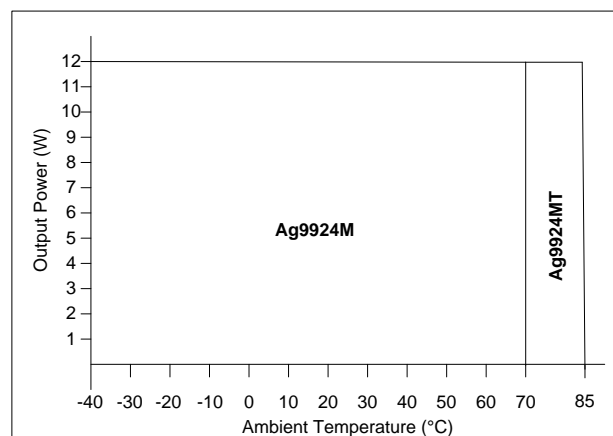
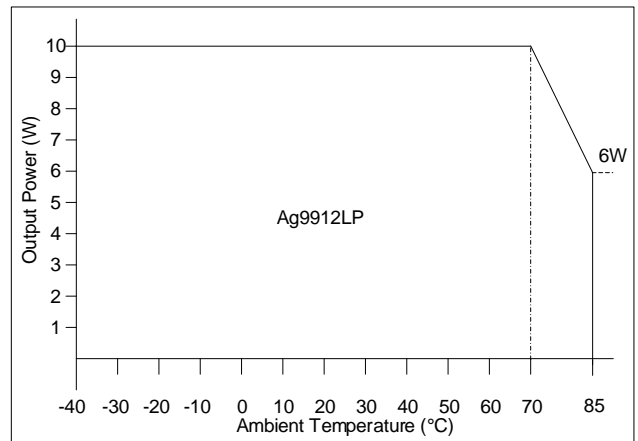
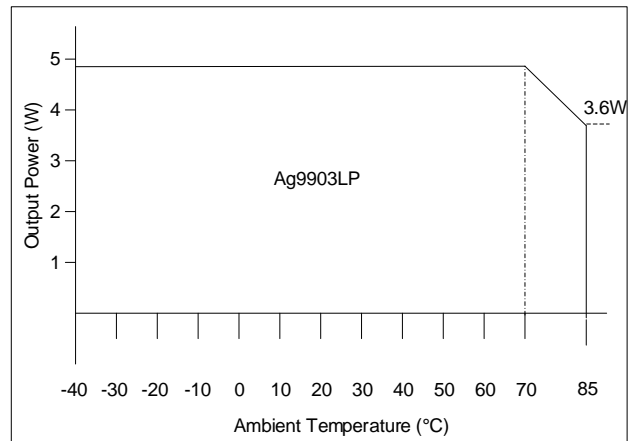
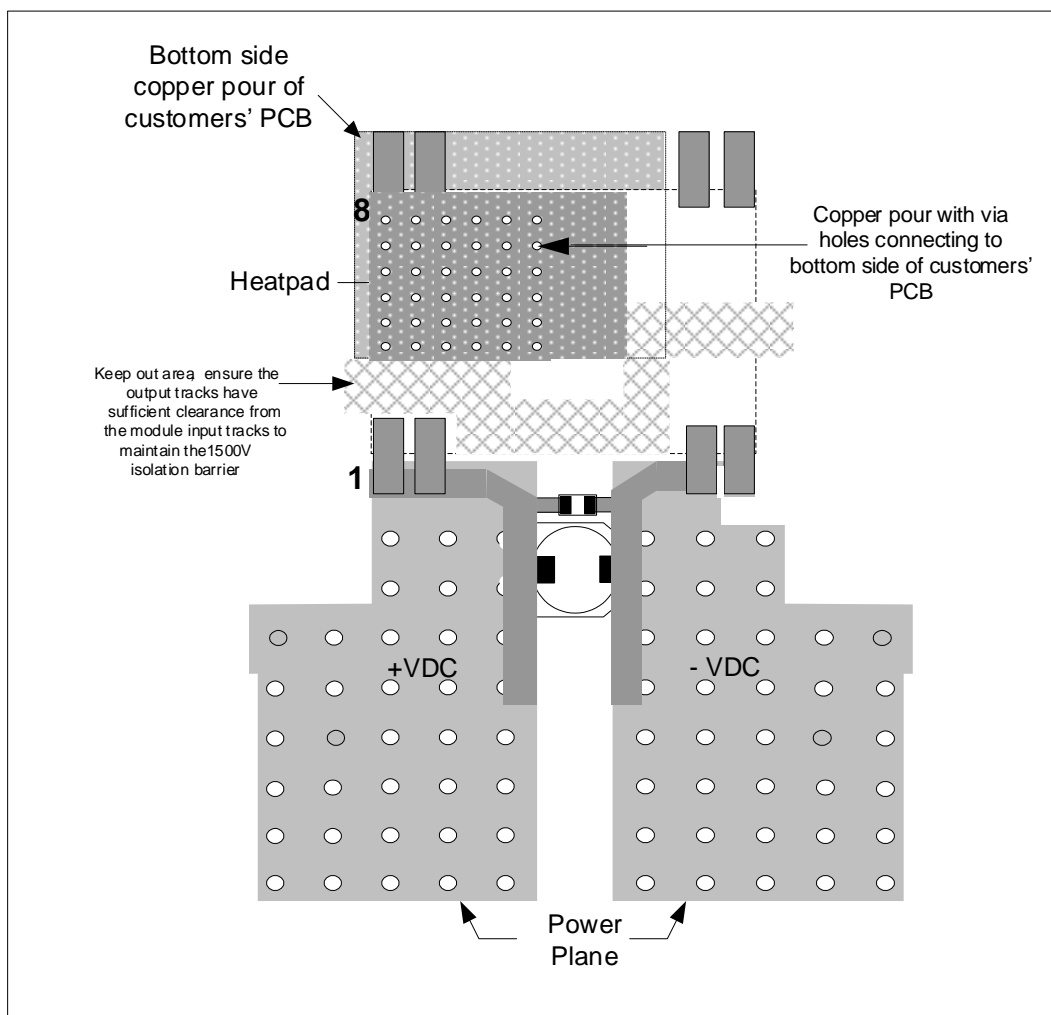

Figure 8: Ag9924M Operating Profile
Figure 10: Ag9912LP Operating Profile
Figure 14: Ag9903LP Operating Profile
Figure 15: Ag9900M Thermal Relief
The thermal protection reduces the output power, see Figure 8 through Figure 14, to ensure that the maximum component temperature is not exceeded. Full output power will be restored when the ambient temperature drops back down into the safe operating range.
The Ag9900M has a maximum ambient operating temperature of 70°C without any heat-sinking, while the Ag9900MT and Ag9900LP are able to operate up to 85°C while heatsinking to a host PCB; see below Figure 8 through Figure 14. These results were performed in an environment chamber - Associated Environmental System SD-302. The performance of the Ag9900M can be improved by forcing the airflow directly over the part, and by using a thermal pad such as Bergquist .1" Ultra soft gap pad or thermal paste such as thermally conductive Oxime Cure paste. The customer's PCB can then be thermally mounted (using a Bergquist 0.1" Ultra soft gap pad) to the chassis of the host equipment by using the thermal relief pads (see Figure 15 and application note "ANX-POE-Thermal-Considerations" for more information).
These power planes must be on the outer layers of the PCB and the best results are achieved by having power planes on both sides of the main board with multiple through-hole connections. An example of this is shown in Figure 15 with an Ag9900M module.
To meet the safety isolation requirements of IEEE802.3af section 33.4.1 a Powered Device (PD) must pass the electrical strength test of IEC 60950 sub clause 6.2. This calls for either a) 1500Vac test or b) 1500Vdc impulse test. The Ag9900 is specified to meet the 1500Vdc impulse test. It is also important that the tracks on either side of the isolation barrier have at least a 3mm clearance, see Figure 10 & Figure 14 for more information.